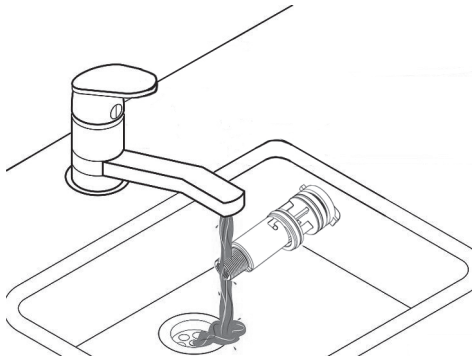
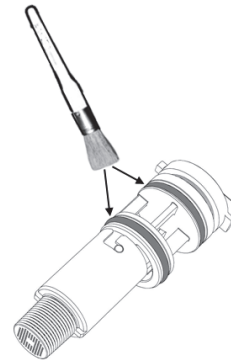

fig. 47
fig. 48
- The flowmeter components can thus be cleaned (see fig. 47 and fig. 48) or replaced.